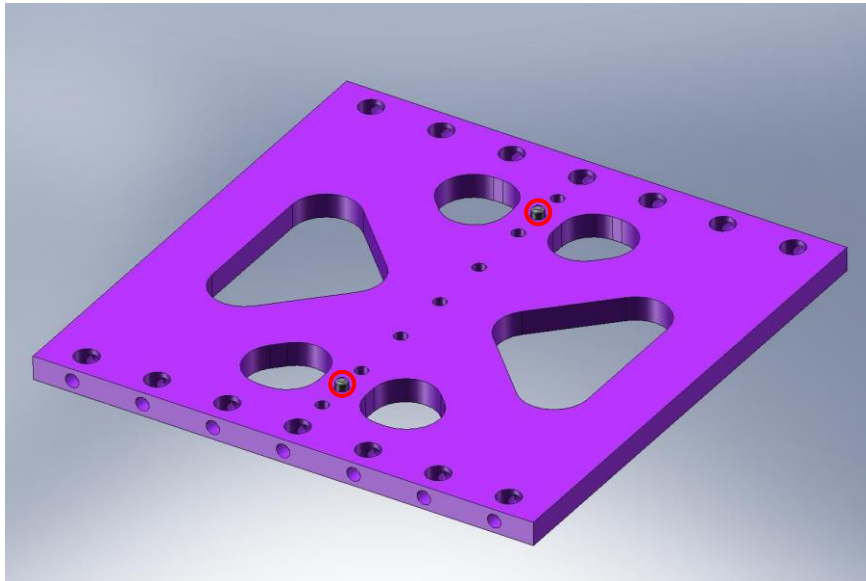

Figure 3.8. Dowel pins pressed into side of Tangential Rib (D071053).
- Press (2) 3/8"x.75" dowel pins into one side of each of (3) **Rib, Tan, GS-13 Cen** plates (D071053), as shown in Figure 3.8. The pins should stand .25" proud of the plate surface.